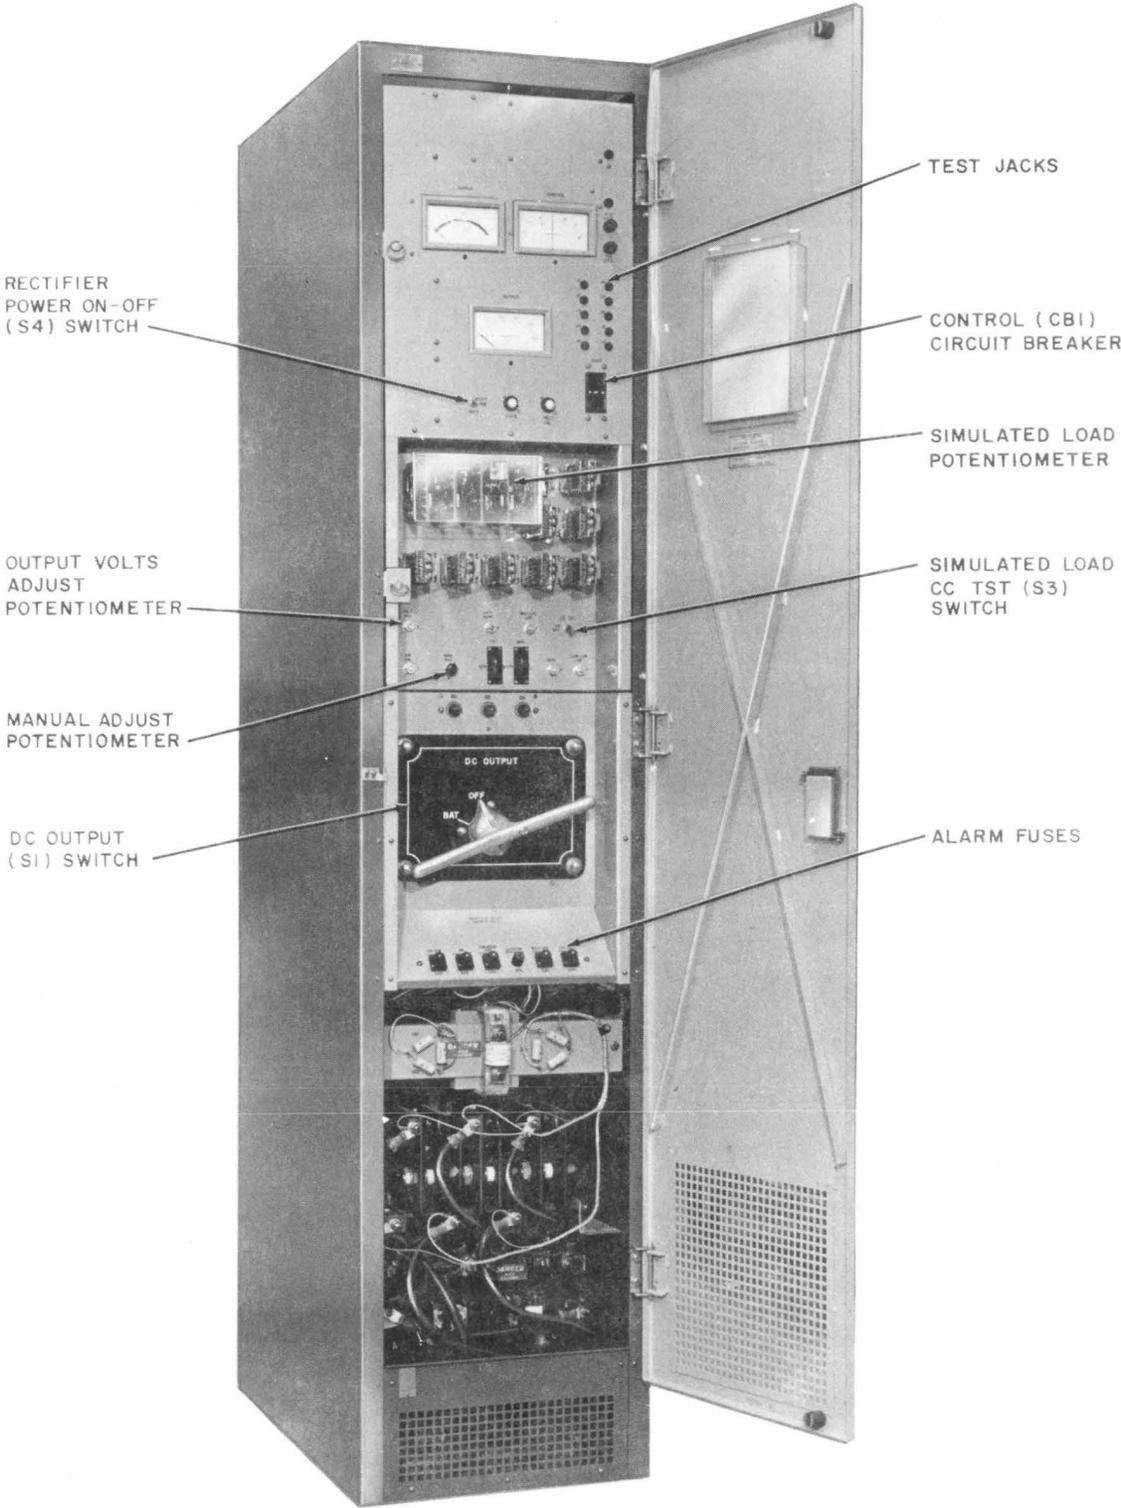

Fig. 1—KS-19210 L23 Rectifier—Front View—Door Open
**3.01 Preparing to Start:** When preparing to put the rectifier in service, check the following. (Refer to Fig. 1.)